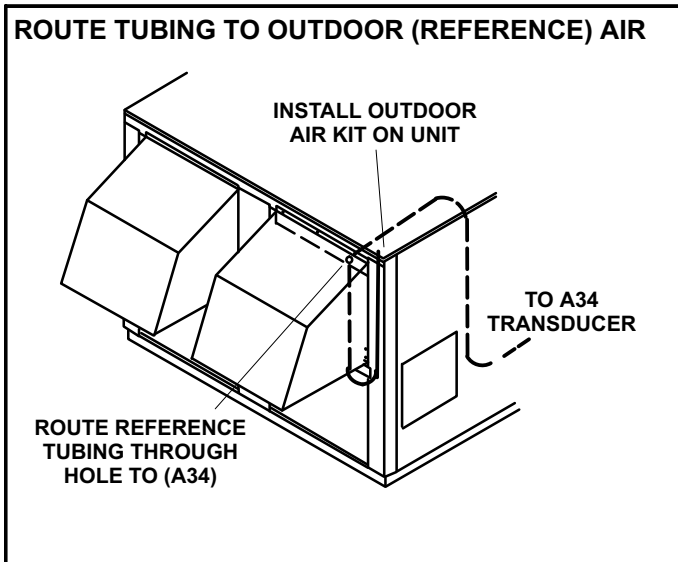

FIGURE 44
- 2- Locate the outdoor air kit shipped in a box in the blower section on the back side of the unit. Install outdoor air kit on the top of the unit in location shown in figure 44. Use manufacturer's instructions.
- 3- Locate the tubing provided with the outdoor air kit. Route the tubing from the outdoor kit through the hole under the intake hood to A34 as shown in figure 44.